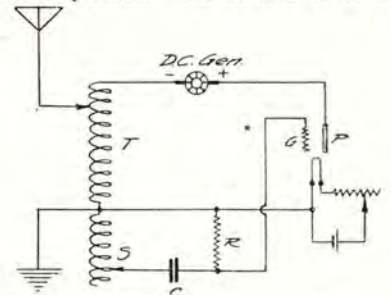

Fig. 76. Hartley Circuit with Tickler Coil in Antenna Circuit
possible. The grid current itself, however, is fairly small, and as a matter of economy and convenience, the grid coil,  $S$ , is generally removed from the antenna circuit, as in Fig. 76. In this circuit, the grid coil may be wound with smaller wire.
76. The resistance of transmitting grid leaks varies from 5,000 to 12,000 ohms, depending upon the design and the capacity of the transmitter tube. In Fig. 76, the antenna circuit is tuned by varying the slider on the coil  $T$ .